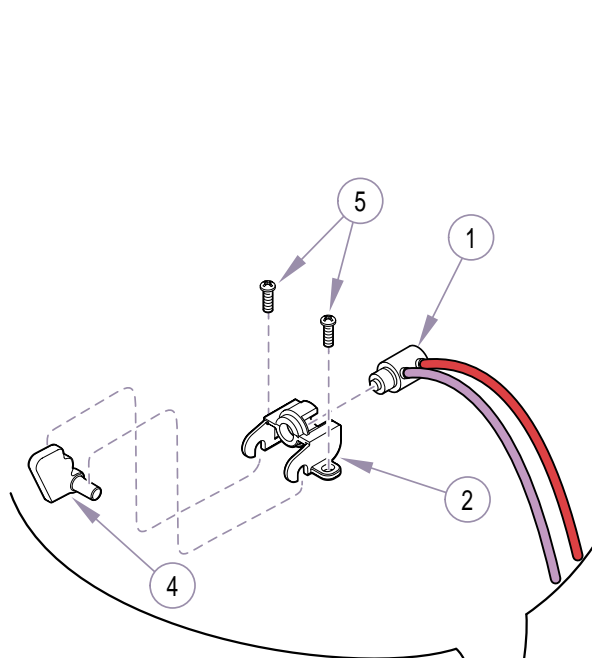
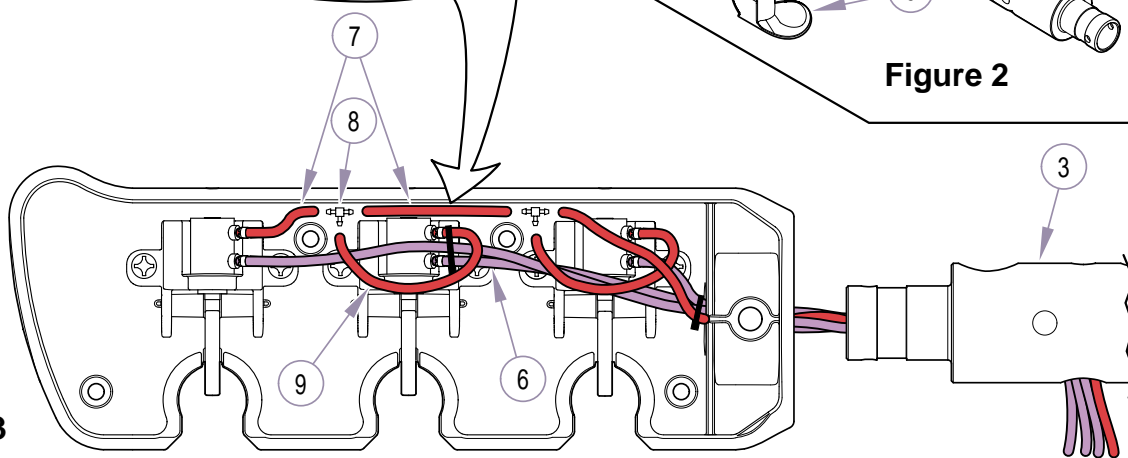

Figure 2
Figure 3
- (1)** Remove four screws (1, Figure 2) and cover (2).
- (2)** Remove set screw (3) and partially separate connector (4).
- (3)** Remove screw (5) and plug (6) from new handpiece position.
- (4)** Slide valve (1, Figure 3) into actuator block (2) with fittings angled toward connector (3).
- (5)** Position valve actuator lever (4) in slot of instrument holder; then install actuator block (2) and secure with two screws (5).
- (6)** Feed 1/8" purple tubing (6) [from new valve] thru connector (3).
Connect & route tubing exactly as shown in Figure 3. It will be necessary to reposition existing tee fitting to install correctly. Trim all excess tubing between valves. Failure to do so may cause tubing to kink, preventing proper operation.
- (7)** Cut 1/8" red tubing (7) [**connecting existing valve(s)**] and insert tee fitting (8); then connect 1/8" red tubing (9) [**from new valve**].
- (8)** Push connector (4, Figure 2) into holder and secure with set screw (3).
- (9)** Install cable ties as necessary to keep tubing from impeding proper operation.
- (10)** Install set screw (7) until flush w/holder.
- (11)** Replace cover (2) and secure with four screws (1).